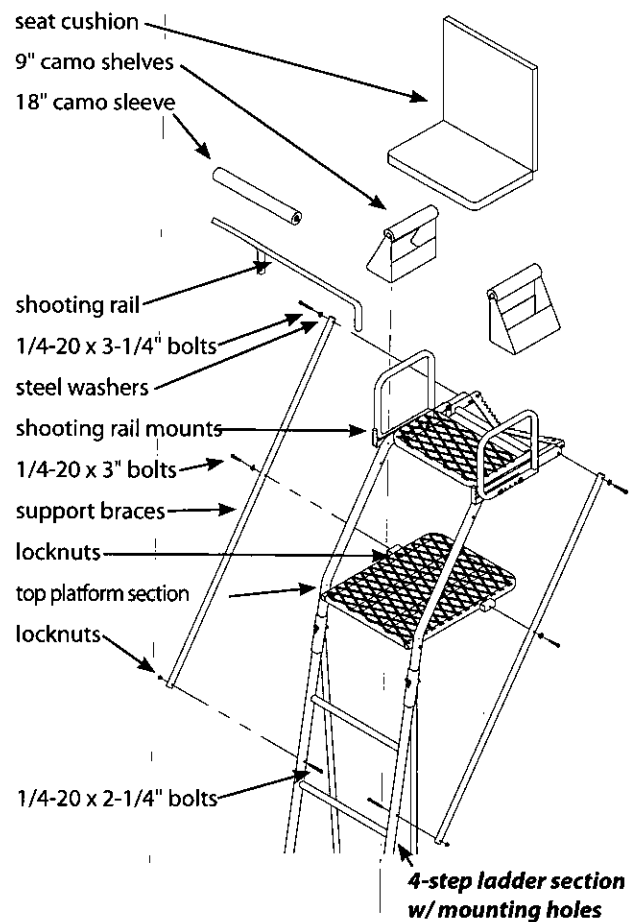

Figure 3
4. Insert the assembled top platform section into the top ladder section with mounting holes (SL54). Attach the (2) support braces (48064) to the outside of side rails, foot platform and 4-step ladder section with mounting holes using (2) provided 1/4-20 x 3-1/4" bolts, (2) 1/4-20 x 3" bolts, (2) 1/4-20 x 2-1/4" bolts, (4) steel washers and (6) locknuts. **SEE FIGURE 3. You must now tighten all nut & bolt assemblies. Be sure not to over tighten or crush tubing when tightening!**
- a. Attach the shooting rail (SR10) by setting rail down over studs on shooting rail mounts. **SEE FIGURE 3. Lubrication is recommended to prevent binding and noise.**
- b. Attach the (2) provided 9" camo arm pad/shelves to the armrests and (1) 18" camo foam pad to the shooting rail by wrapping around metal tubing and attaching Velcro together. Shelves should lay out flat to the outside of armrests. Use these shelves for holding various hunting gear items so they are readily available to you during your hunt.
7. The remaining (3) ladder sections are assembled to the top ladder assembly on the ground in the following order: bottom section (SL51 ladder); second section (SL52 ladder); third section (SL51 ladder); fourth section (SL54 ladder); top section (assembled top platform section). **SEE FINISHED 22' TIMBERSHOT EXTREME LADDER.**